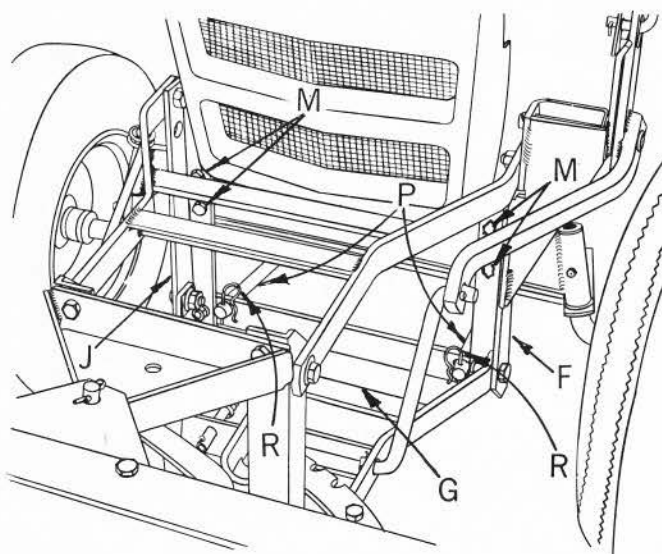
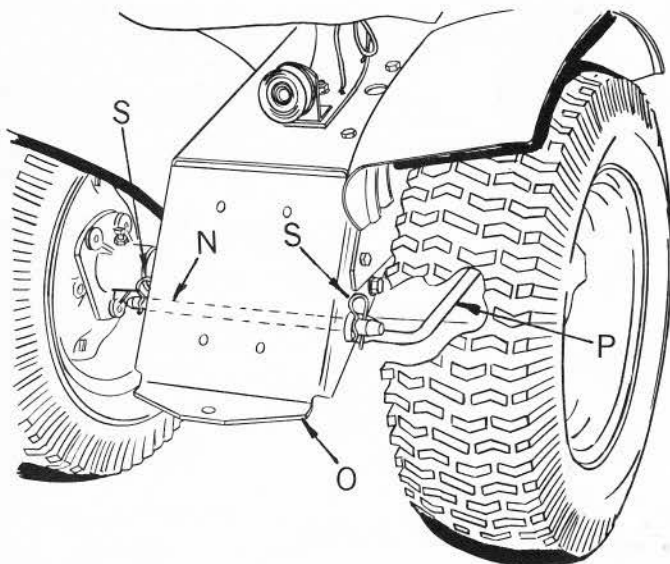

FIG. 3
FIG. 4
8. Refer to Figure 3. Assemble mounting angle and quadrant assembly (F) and mounting angle R.H. (J) to rocker bar (L) as shown with four 3/8 x 1-1/4 hex bolts, and gripco nuts (M) found in plastic bag. Leave bolts loose until push rods are installed.
9. Refer to Figure 3. Insert round ends of push rods (P) into holes in mounting angle brace (G) and secure with retainer springs (R). Retainer springs found in plastic bag.
10. Refer to Figure 4. Slip lower link pin (N), through holes in sides of tractor drawbar (O) as shown. NOTE: Insert and spread 3/16 x 1 cotter pins in lower link pin (N) under and between sides of drawbar (O).
11. Refer to Figure 4. Slip rear of each push rod (P) over ends of lower links pin (N) as shown and secure with retainer springs (S), found in plastic bag. Tighten four bolts (M) in rocker bar and mounting angles. Refer to Figure 3.